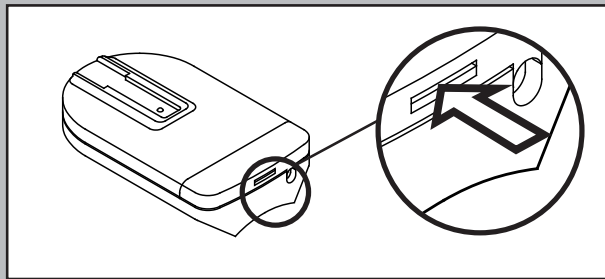

Fig. 10-1
1. **Turn remote control upside down (Fig. 10-1)**
- Gently push straight IN on tab as shown (Fig. 10-1).